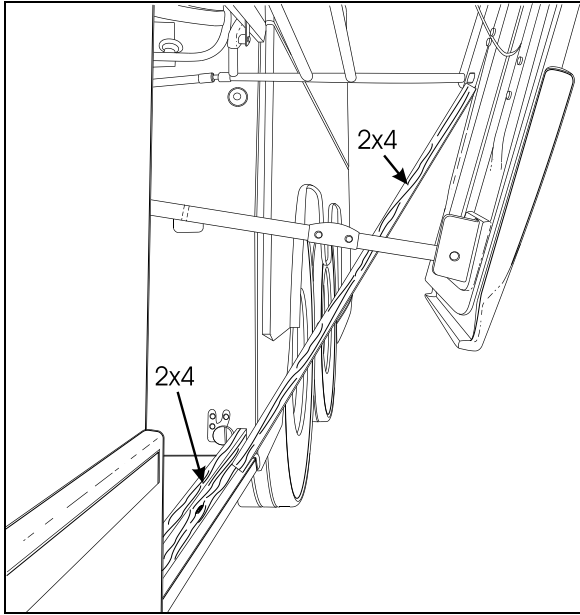

FIGURE 66: PANTOGRAPH ADJUSTMENT 18319
3. Install another piece of 2x4 between the first piece and the bottom of the pivot of the lowest (or shortest) pantograph arm, (Figure 66).